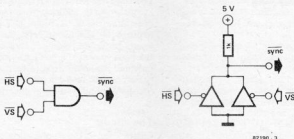

Figure 3. If only a horizontal and a vertical sync signal are available, the two can be combined in this way.
We shall examine the BE (burst enable) signal later. Incidentally, a combined (horizontal plus vertical) sync signal is not always available. In this case the horizontal (HS) and vertical (VS) components must be combined into a sync signal. Figure 3 shows a simple circuit: an AND gate (3a) or two tri-state buffers (3b) form the desired sync signal from the HS and VS.